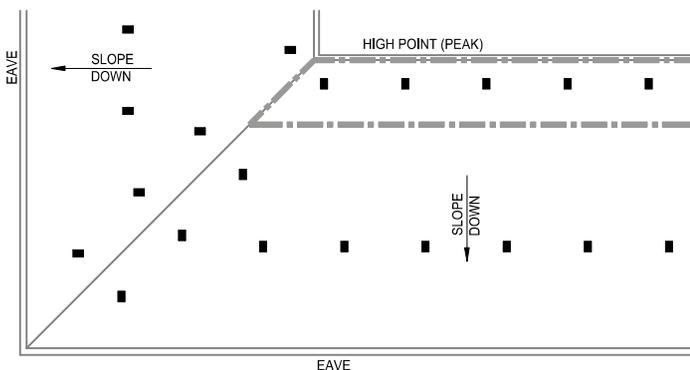

FIGURE 24C
- Calculation #2: Calculate the most hydraulically demanding 5 contiguous sprinklers along the high point. See Figure 24C.